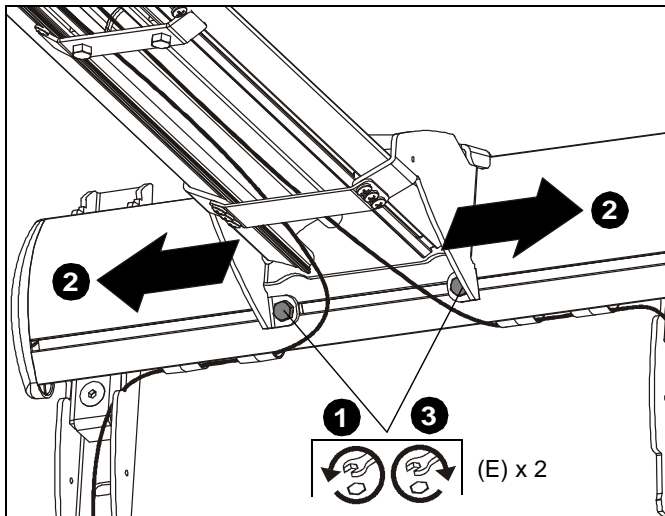

Figure 68
1. Loosen two 1/4-20 x 5/8" hex head cap screws (E) on underside of mounting bracket. (See Figure 68)
2. Adjust projector arm laterally to desired position. (See Figure 68)
3. Tighten two 1/4-20 x 5/8" hex head cap screws (E) loosened in Step 1. (See Figure 68)